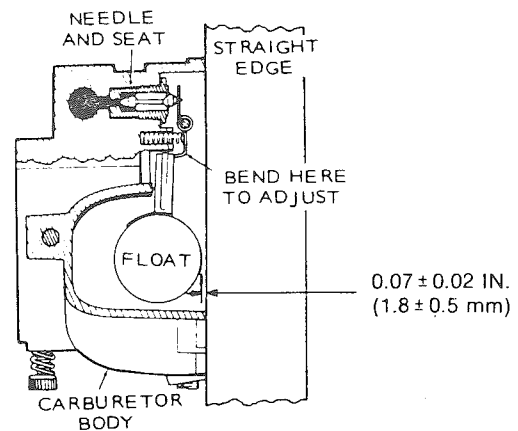

Figure 214 – Carburetor Float Setting
4. Invert the carburetor and check the float setting (see figure 214). The float should have a  $0.07 \pm 0.5$  mm clearance from the machined mating surface (without gasket). Bend the float tab as required.
5. If it is necessary to reset the float level, loosen the screw near float valve axle (pin) and bend the float arm near float valve axle (pin) to position float flush with top edge of carburetor float bowl (see figure 214).